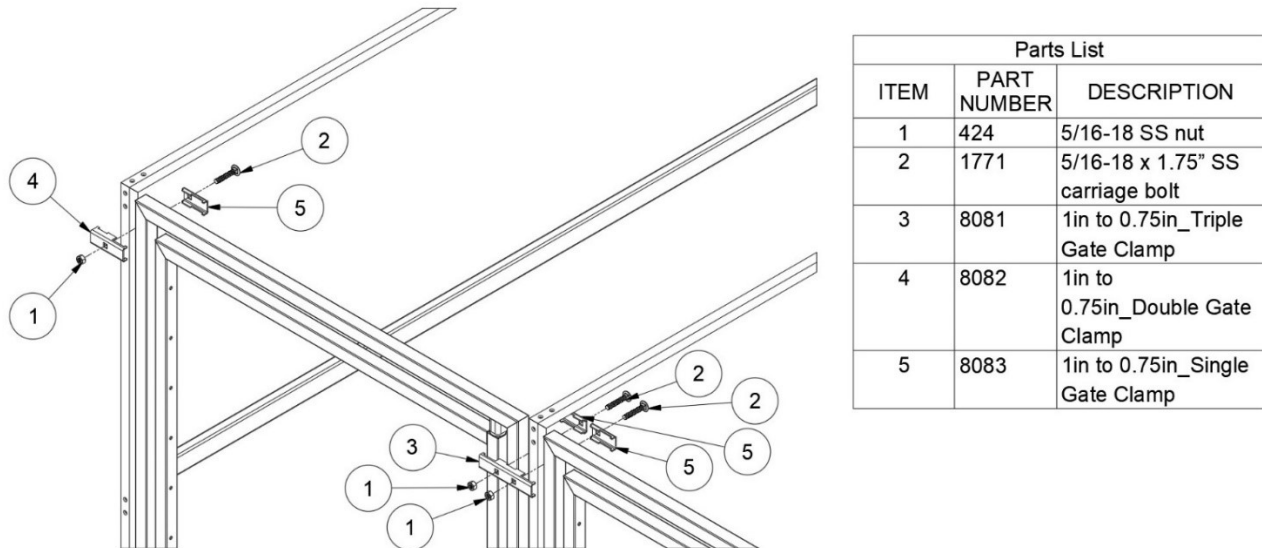
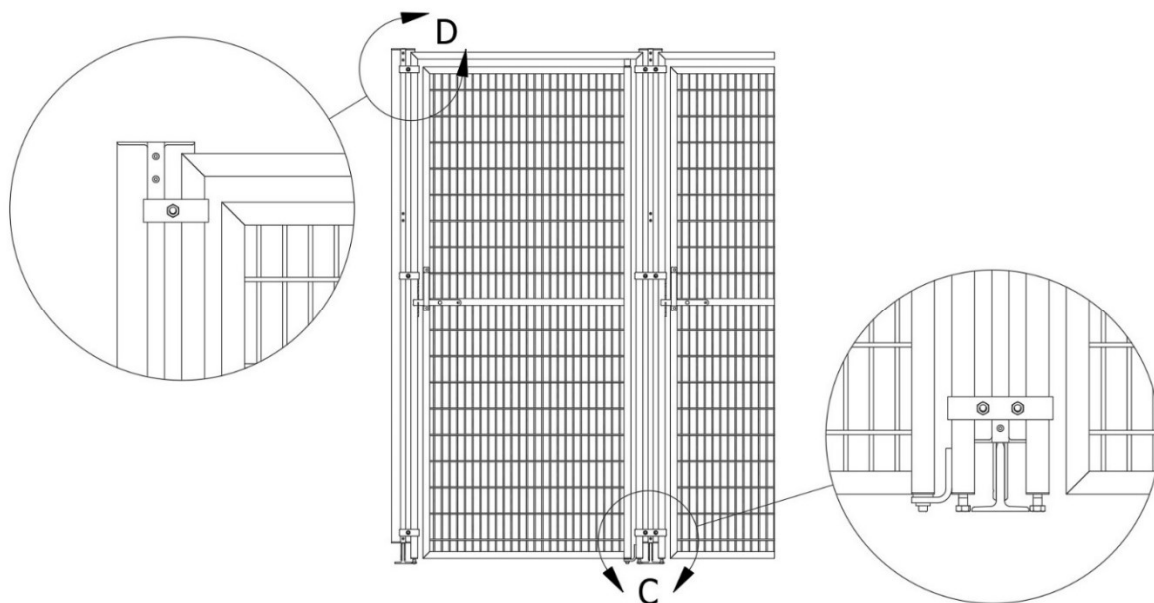

Figure 12
Figure 13
1. Attach the gate/stall front on the front of each run between the division panels with three clamps on each side using the 5/16" x 1-3/4" bolts and nuts provided as shown in Figure 12. Note: It takes two halves to make up one clamp. Attach gates/stall fronts to outside division panels using "square – 1" panel clamps". All other gates/stall fronts will use "square – 1" triple clamps". **To help ensure the safety of the animals the round head of the bolt should be assembled toward the inside of the run.** Note: The triple clamps attach two gates/stall fronts together. Therefore, you will have to hang two gates/stall fronts at the same time (see Figure 13).